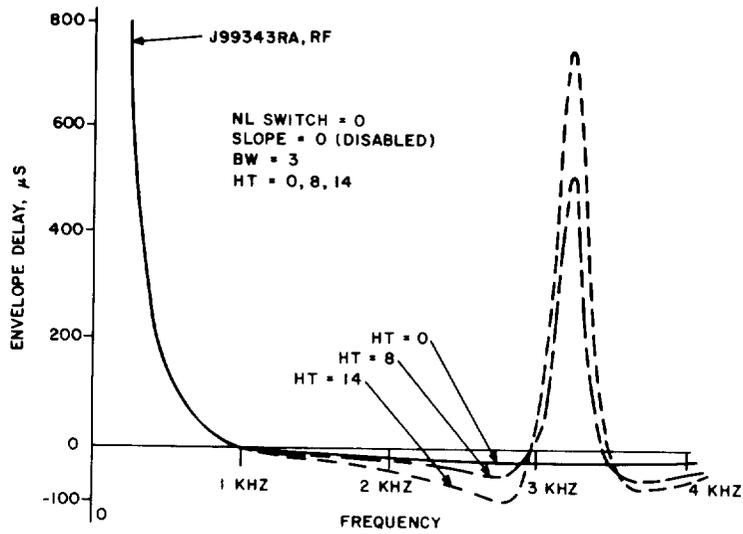
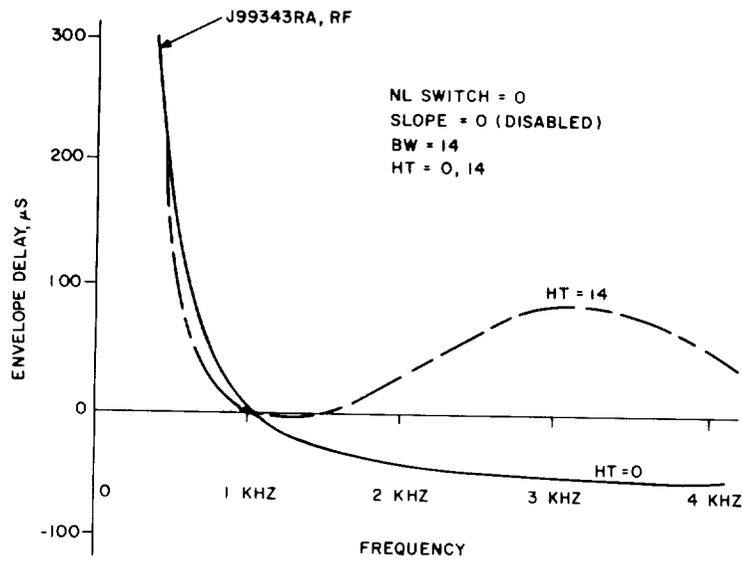

Fig. 15— Envelope Delay Distortion of J99343RA, RF Repeaters BW = 3, HT = Variable
Fig. 16— Envelope Delay Distortion of J99343RA, RF Repeaters—BW = 14, HT = Variable
cable. Figure 15 shows the EDD for various HT settings with the BW switches at a small setting (3). Figure 16 provides the EDD for the same HT settings with the BW switches at a large setting (14).